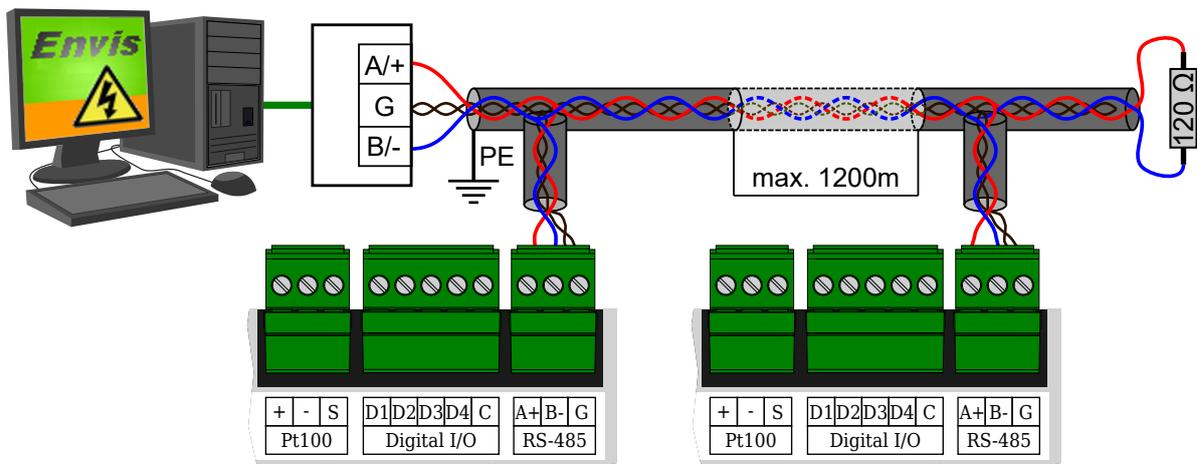

Figure 7: Connection of RS-485 communication lines to SMC 233 devices SMC 233.
**RS-485** It is usually used as an interface for remote reading of current values, archive records, and instrument settings. The RS-485 serial line uses the A +, B-, and G-signal terminals on the terminals described by RS-485 (fig. 7). The ends of the communication line must be terminated with the specified resistance.